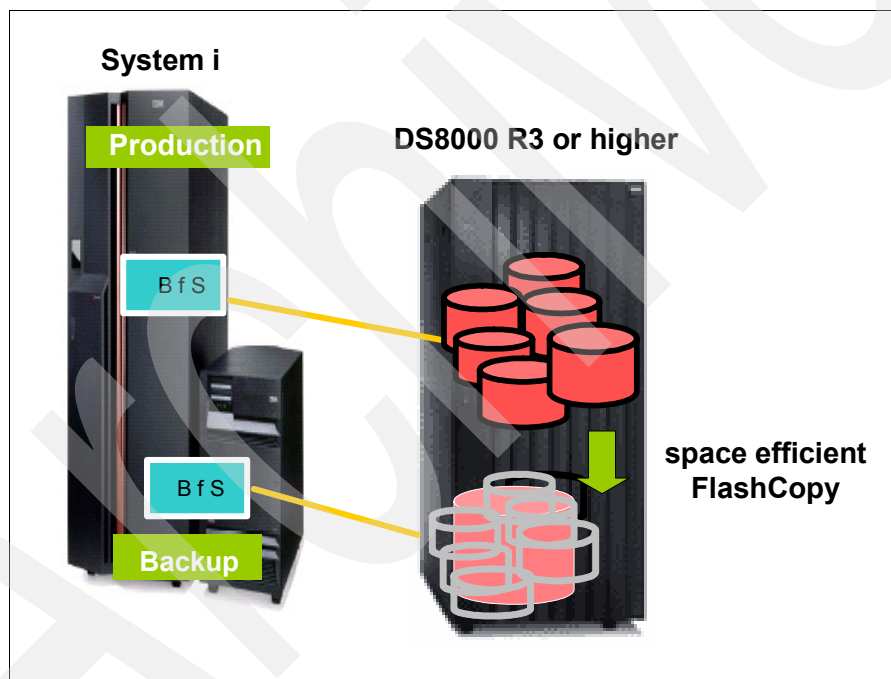

Figure 6-14 Space efficient FlashCopy example setup
The space efficient FlashCopy target volumes on the DS8000 are defined of the same capacity and protection as System i production volumes. For our example a stand-by backup System i partition is connected to FlashCopy space efficient (SE) target volumes using boot from SAN (see Figure 6-14). The backup partition usually resides on the same System i server as the production partition but it can also be on a separate System i server.